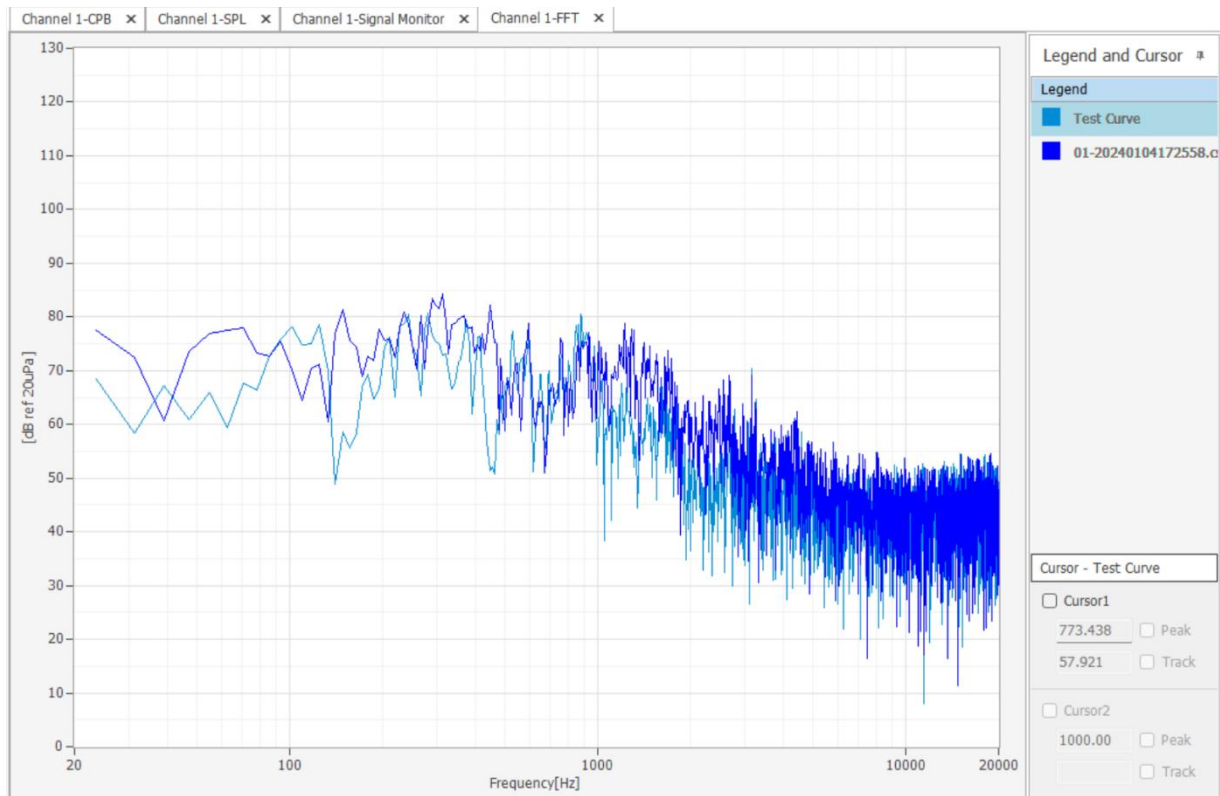

Figure 17. Import Waveform File for Comparison
- The Import Waveform File function allows you to import a saved waveform file on your computer into a window for comparison with the current test waveform, as shown in Figure 17;